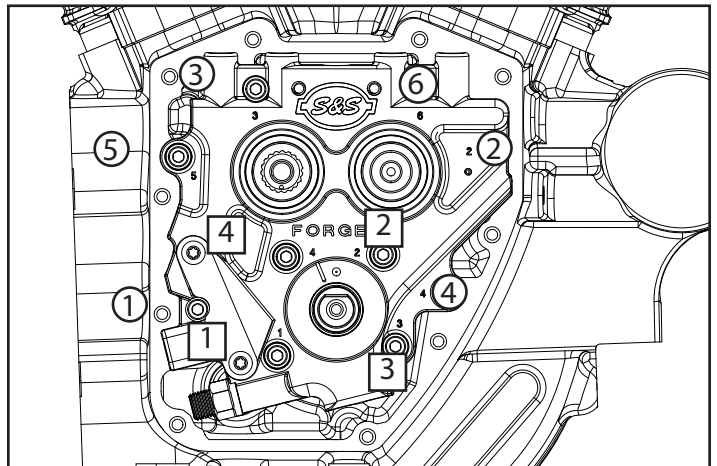

Figure 1
7. Apply blue thread locker to existing fasteners and install the cam support plate and cams. Tighten fasteners to 100 in-lb in the sequence shown in **Figure 1**.
9. Refer to **Figure 1** for proper torque sequence. While rotating the engine, alternately tighten bolts 1 and 2 (shown in squares) until the bolts are snug. Tighten bolts 3 and 4 until they are snug. Finally, torque the four bolts in the sequence shown to 100 in-lbs. This procedure ensures that the oil pump is properly centered.